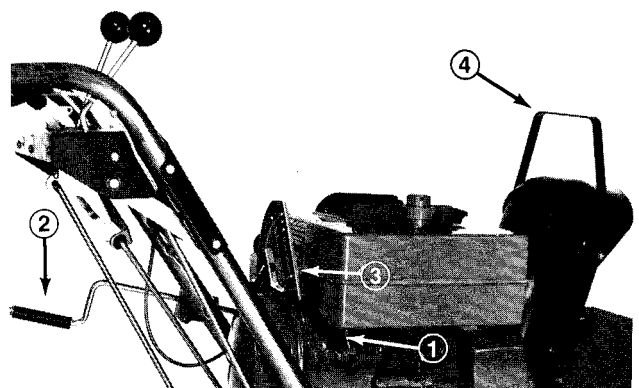

Figure 18
**Fuel Shut-Off Valve (Fig. 18)** — Valve is located under fuel tank. Close valve to stop fuel flow from fuel tank and open valve to allow fuel to flow to the carburetor. Close valve when snowthrower is not used.
**Discharge Chute Control (Fig. 18)** — Rotate discharge chute control clockwise to move discharge chute to the left and counterclockwise to move chute to the right.
**Recoil Starter (Fig. 18)** — Recoil starter is on back side of engine. Pull recoil starter to start engine.
**Deflector Handle (Fig. 18)** — Deflector handle is on top of discharge chute and it is used to control height of the snow stream.